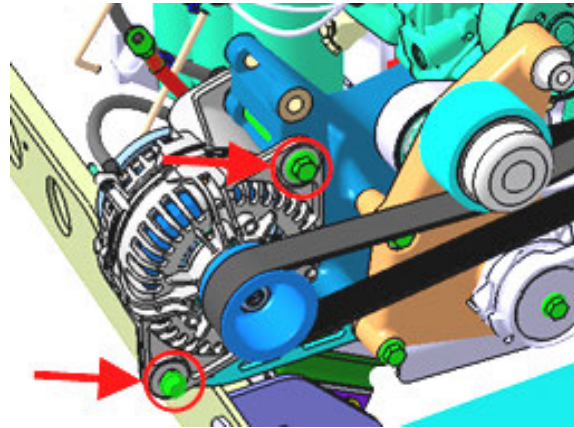

FIGURE 43
- Remove the alternator. To do so, unscrew the two (2) mounting bolts identified on **FIGURE 43**.